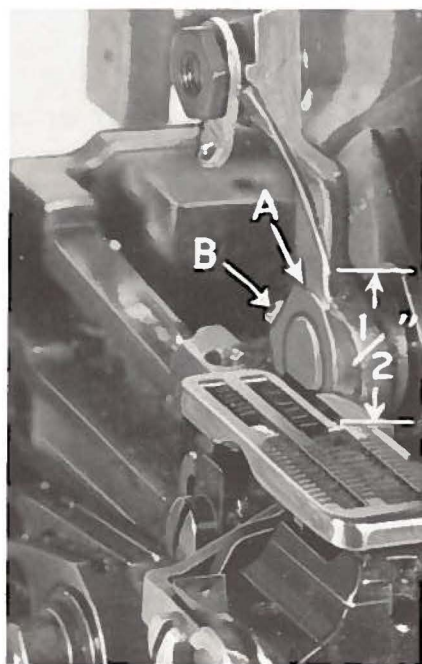

Fig. 3
With throat plate assembled in position, needle should center in the front end of needle slot. When needle is at high position, needle point should be set $1/2$ inch above throat plate (Fig. 3). To align needle or set the height above throat plate, move needle driving arm (A, Fig. 3) by loosening clamp screw (B). Remove throat plate, after needle has been set properly and clamp screw (B) has been tightened.